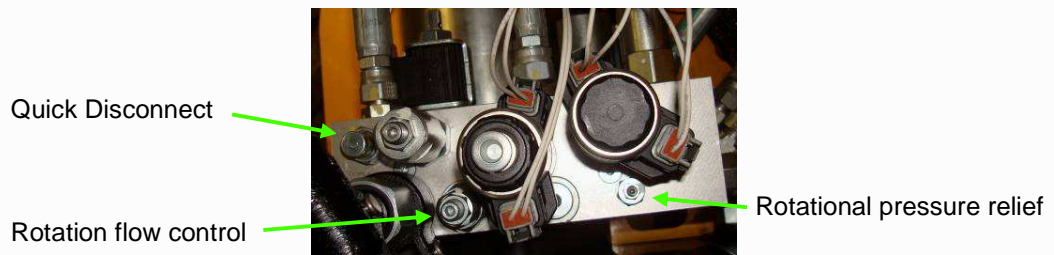

Figure 1.10
20. Adjust the rotation force by turning in or turning out the rotation pressure relief. When rotating a person should be able to stand at the opposite end of the pivoting point and stop the machine from turning by applying a force against the machine. If the person cannot stop the machine the rotation pressure relief should be screwed out. Refer to figure 1.10.
22. Time the high rotation speed for a quarter of a rotation. Based on the table below for rotation timing adjust the rotation flow control by turning it in or turning it out. Only turn the rotation flow control when adjusting for the high speed setting. Other speed settings will be changed in a future step. Refer to figure 1.10.
23. Attach a pressure gauge to the quick disconnect in order to take the running pressure. Re-adjust the high speed voltage so the running pressure is between 1000 and 1500 psi. Refer to figure 1.10.